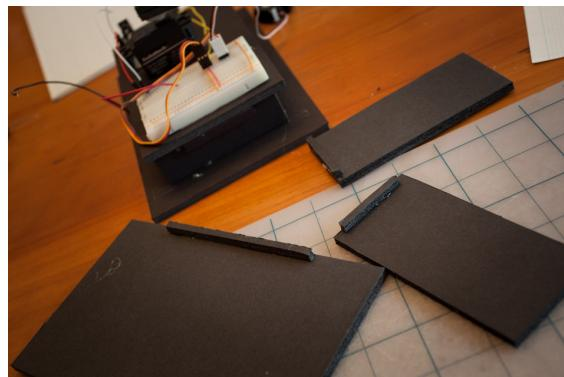

Figure 7-6 The three wall pieces with support reinforcements attached
1. Glue a $1/4" \times 2"$ support reinforcement along the long edge of the $7" \times 4.5"$ rear wall, and along one short edge each of the $2.25" \times 4.5"$ side wall pieces. See Figure 7-6.